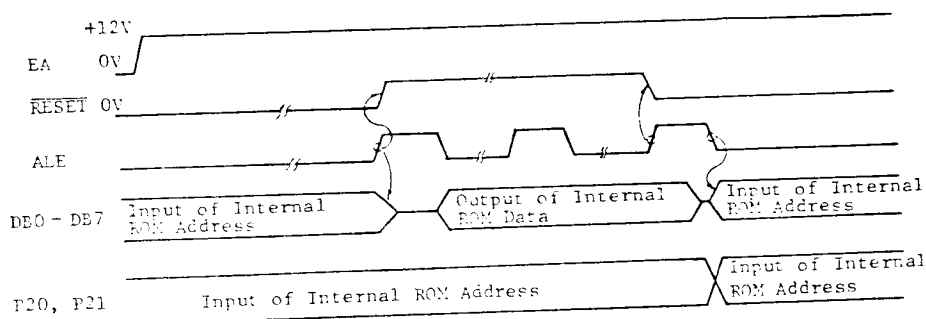

Fig.7 Timing of Reading Internal Program Memory
- Figure 7 illustrates the timing diagram for this operation.
(5) Single Step Operation.